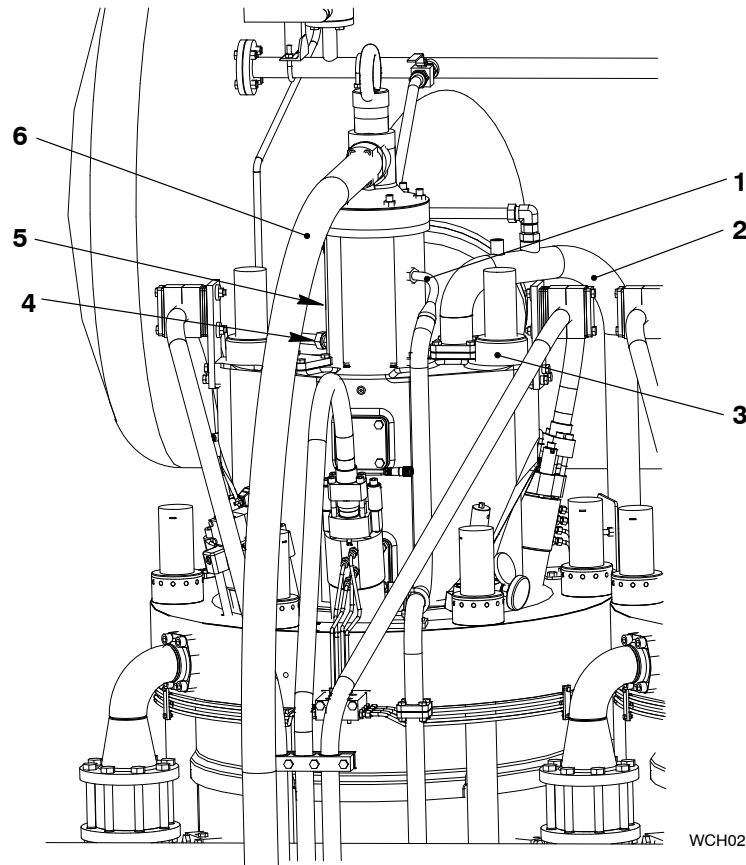

Fig. 7
- 1) Connect the electrical connection (5, Fig. 7) to the valve stroke sensor.
- 2) Open the air inlet to the air spring (4) at the control air supply.
- 3) Install the applicable hydraulic pipe (6) to the exhaust valve, refer to 8460 1, paragraph 5.
- 4) Connect the air inlet pipe to the air spring supply (4).
- 5) Connect the cooling water pipe (2).